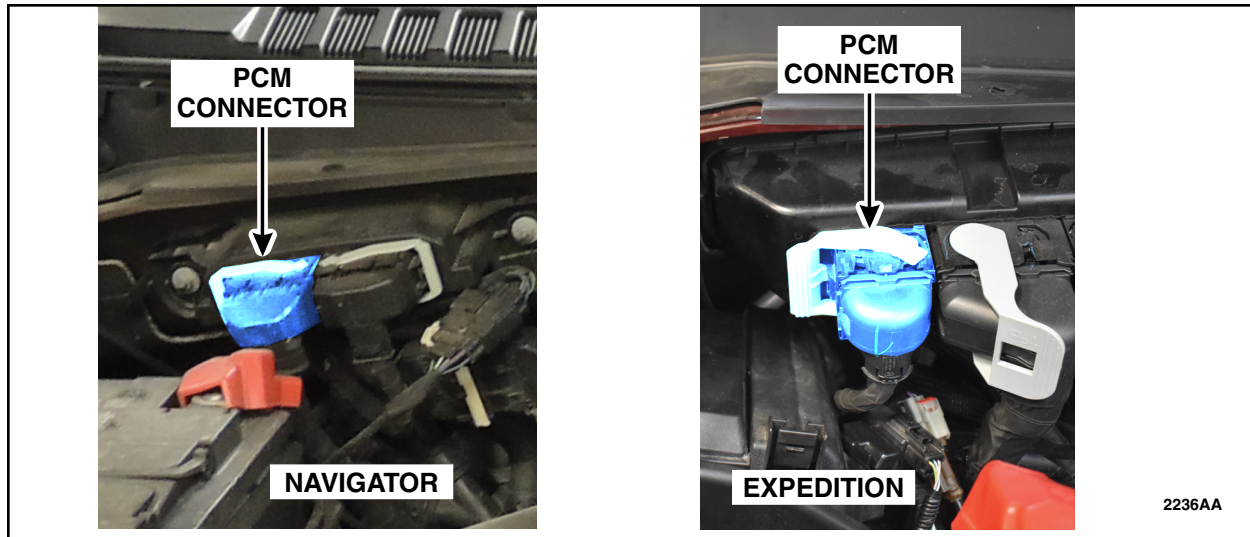

FIGURE 7
7. Disconnect the outboard Powertrain Control Module (PCM) electrical connector. See Figure 7.